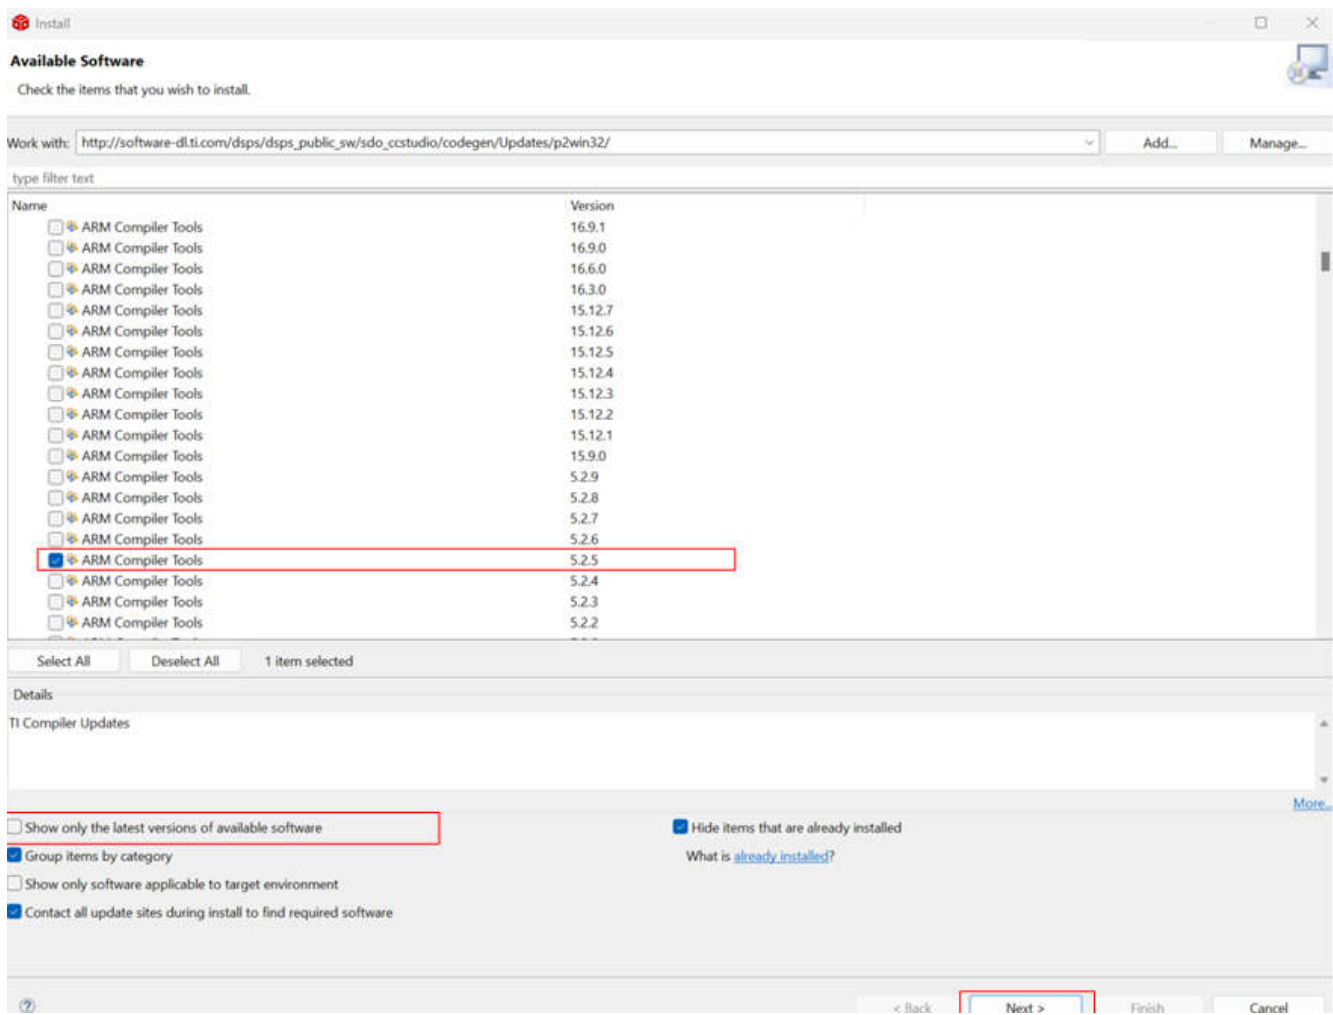

Figure 2-7. Install a Compatible Compiler Version
Step2: Deselect "Show only the latest versions of available software", select "ARM Compiler Tools 5.2.5", and click *Next*, as shown in Figure 2-7.